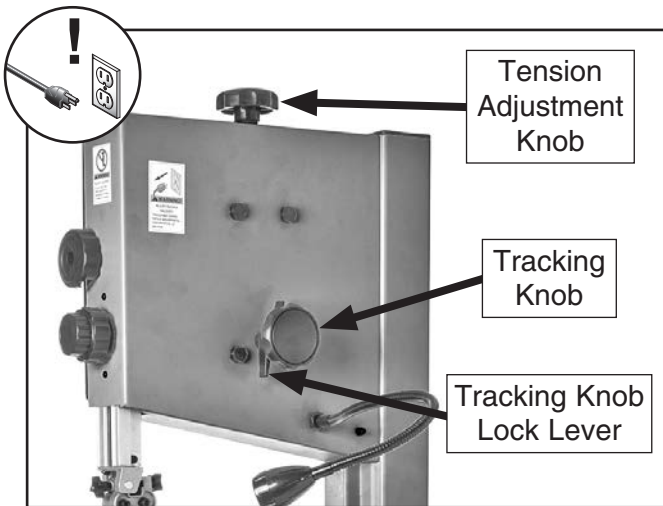

Figure 22. Blade tension and tracking controls.
3. Rotate tension adjustment knob clockwise to apply tension to blade (see **Figure 22**).
7. Spin upper wheel with one hand and slowly adjust tracking knob (see **Figure 22**) with other hand until blade consistently tracks in center of wheel.